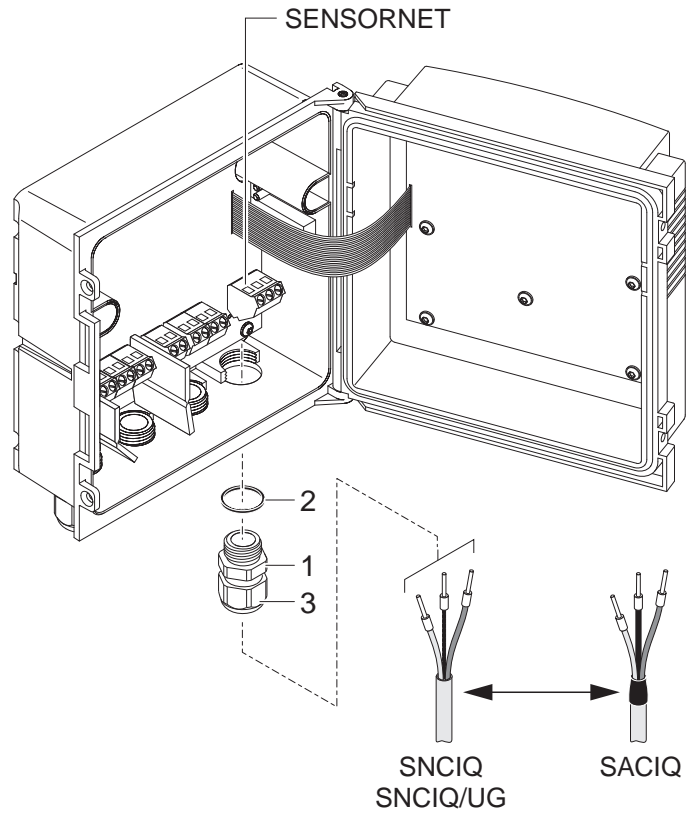

Fig. 3-12 Connecting cables (example of Universal Transmitter)
| 3 | Screw a cable gland (pos. 1 in Fig. 3-12) with the sealing ring (pos. 2) into the enclosure. |
| 4 | Loosen the coupling ring (pos. 3 in Fig. 3-12).  |
7	Tighten the coupling ring (pos. 3 in Fig. 3-12).